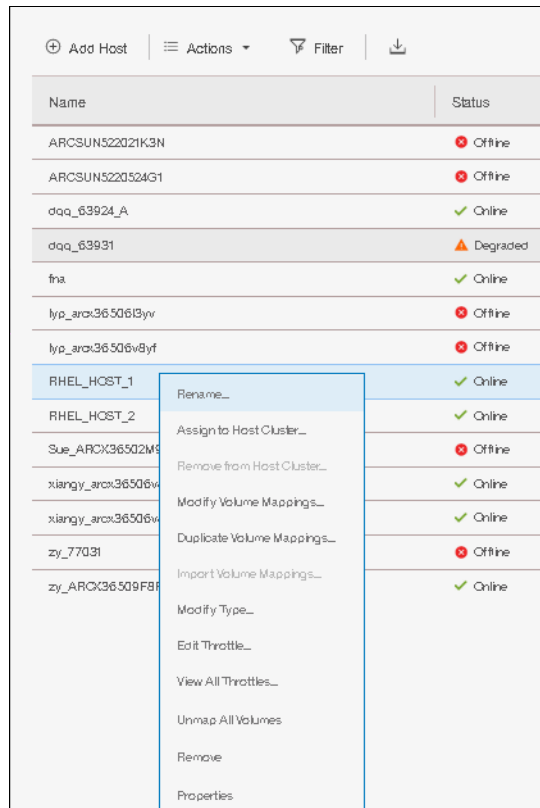

Figure 6-49 Modify host mappings
7. Right click on the host to which the volume was mapped and select **Modify Volume Mappings** as shown in Figure 6-49